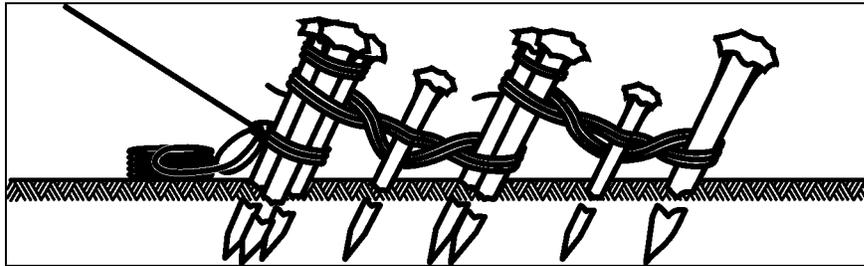

Figure 3-75. Normal and Reinforced Picket Holdfast
- b. Normal and reinforced picket holdfast (see Figure 3-75).
- (1) Select two or more pickets at least 3 inches and 5 feet long.
- (2) Drive the pickets 3 feet into the ground, 3 to 6 feet apart, and in line with the deadline.
- (3) Tie the pickets together with fiber rope by first tying one end of the rope to the top of the front picket with a clove hitch.
- (4) Wrap four or six wraps of rope on the picket starting from the top of the front picket to the bottom of the rear picket.
- (5) Tie the other end of the rope to the bottom of the rear picket with a clove hitch.
- (6) Pass a stake between the rope wraps midway between the pickets.
- (7) Tighten the rope by twisting it with the stake then drive the stake into the ground to hold the tension.
- (8) Repeat this process with each successive pair of pickets.